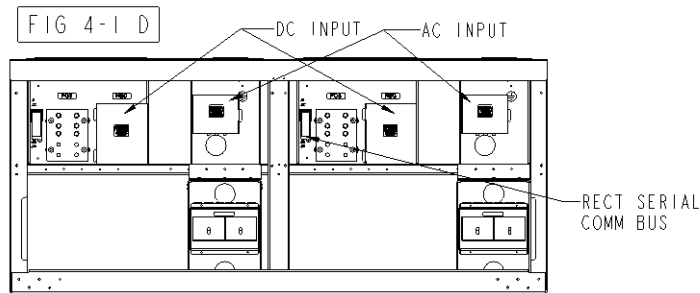

Figure 4-1 FRPS-400 Front view, Typical Connections, front cover removed
## Connection and Wiring (See Fig 4-1, 4-2 or 4-3)
12.	Connect the AC ground conductor to the FRPS. See Figure 4-1 , 4-2 or 4-3
13.	Connect the AC input power wiring to the FRPS. See Figure 4-1 4-2 or 4-3
14.	Connect the DC Return (+) output cable(s) to the FRPS. See Fig 4-1 , 4-2 or 4-3
15.	Connect the DC Battery (-) output cable(s) to the FRPS .See Fig 4-1 , 4-2 or 4-3
16.	Connect the Rect Serial Comm Bus cable to the previous FRPS (daisy chain) Fig 4-1, 4-2 or 4-3 or to the Controller if this is the first FPRS cabinet. See Section 5.
3.	Route the serial cable from the Galaxy SC controller to the FRPS cabinet #1 and plug it into J1 connector located next to the DC output cables. See Figure 4-1., 4-2 or 4-3
3.	Route the serial cable from the Millennium controller to the FRPS cabinet #1 and plug it into J1 connector located next to the DC output cables. See Figure 4-1, 4-2 or 4-3